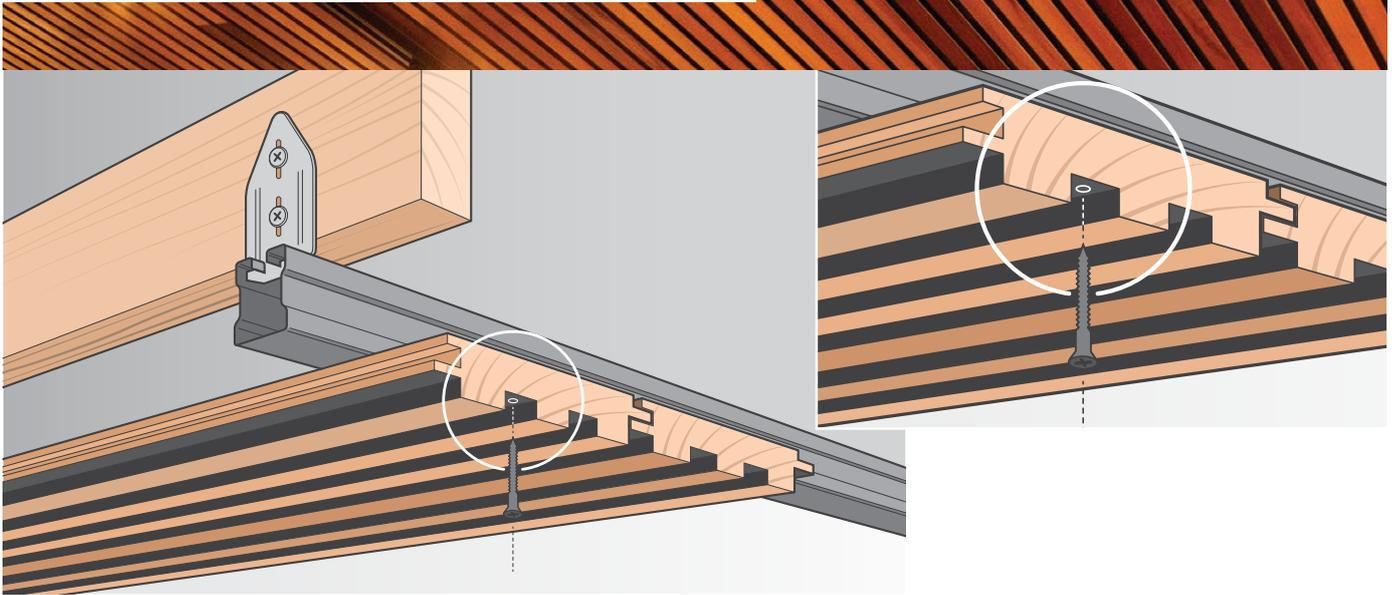

Figure 3: Panelling installation using metal track system and face fix: face screw directly using a coloured head screw [see Figure 4].
- Castelation® panelling with channels, can be screwed through the channel to the metal track. One screw per board, per track is sufficient (see Figure 3). This works particularly well with the Castelation® TwoTone product as the screw heads can be painted the same colour as the channels.